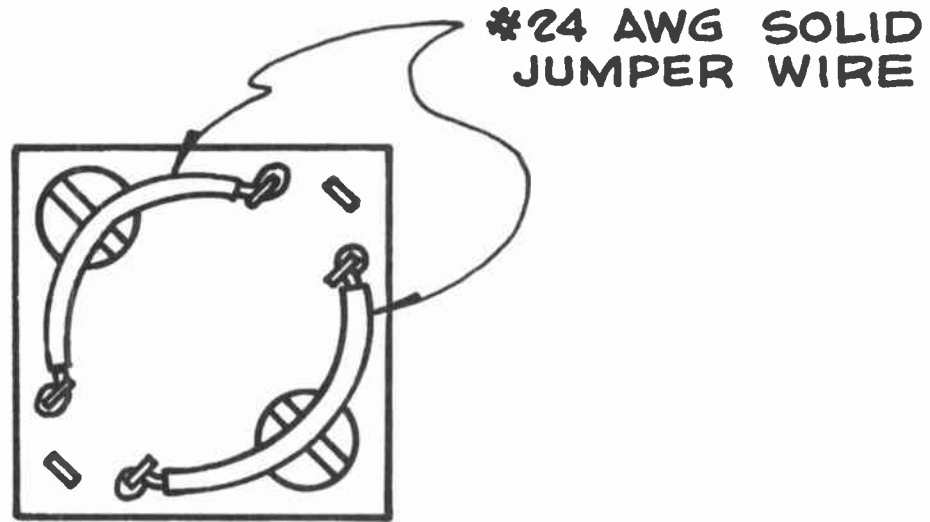

Figure 5-1. Switch Rear View.
- c) Connect a short length of number 24 solid wire in two places as shown in figure 5-1.